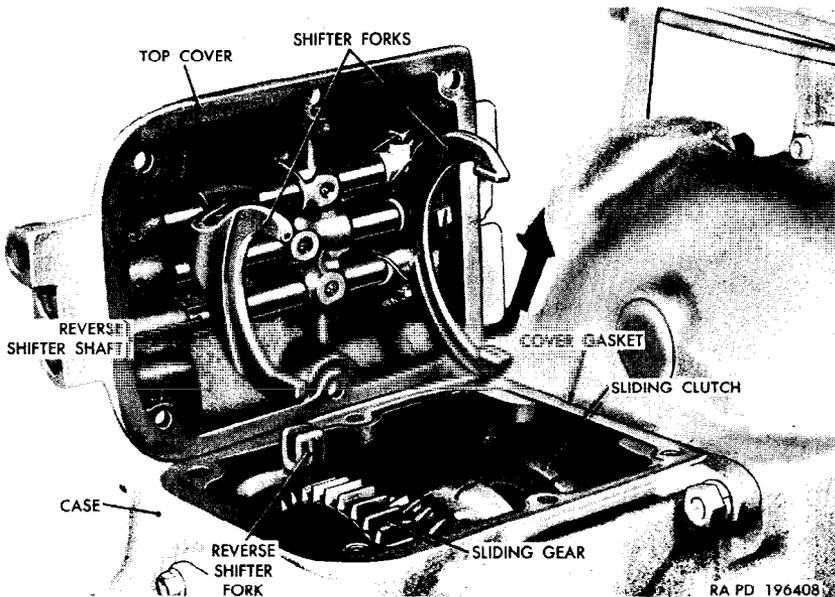

Figure 161. Transmission top cover removed.
- (3) Clean the top cover and remove the six bolts and lockwashers that secure the cover to the transmission case. Remove the cable clip from the right front corner and remove the cover (fig. 161). Remove and discard the cover gasket.
- (4) Clean the gasket surfaces of the transmission case and cover thoroughly, exercising care to prevent any dirt or other foreign matter from entering the case.
the transmission sliding gear, the reverse shifter fork with reverse shifter shaft, and the front shifter fork in the sliding clutch (fig. 161).